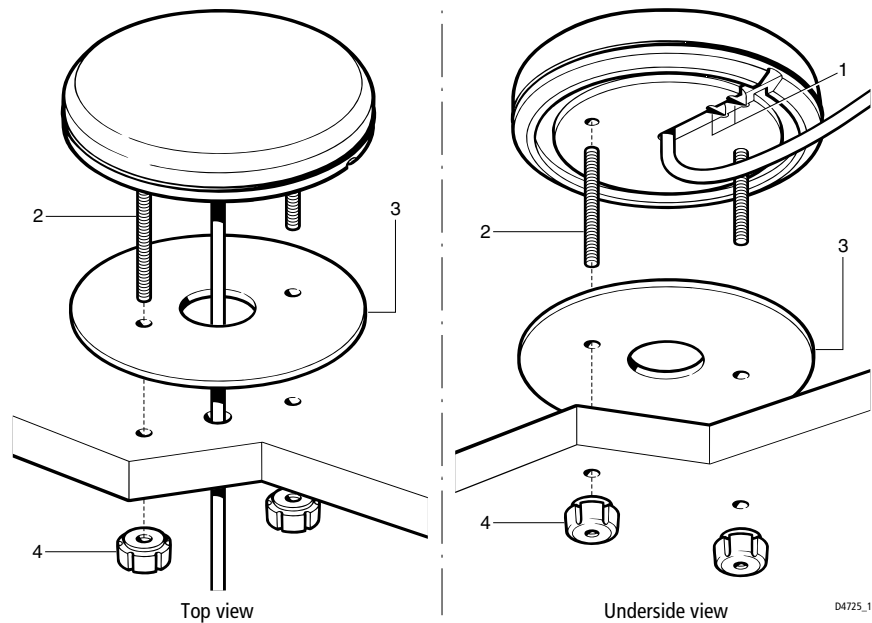

Figure 5-2: Surface Mounting Arrangement
► To surface mount the antenna, referring to *Figure 5-2*: